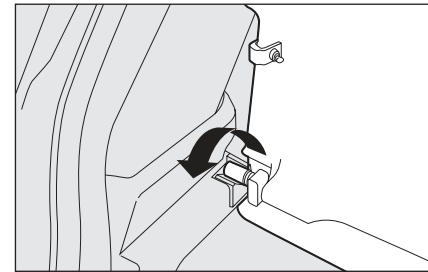

fig. 113
- Front parcel shelf: release and turn the parcel shelf from its seat and release the two pins from the side seats **fig. 113**.